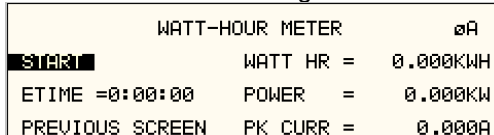

Figure 9-71 Watt-Hour Meter Screen
- The WATT-HOURS METER screen shown in Figure 9-71 has the following fields: